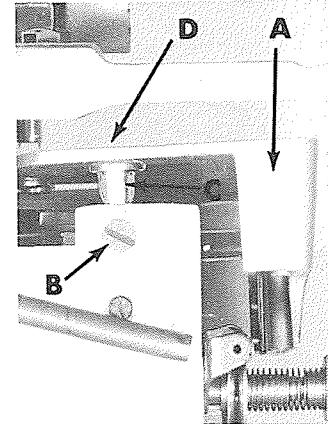

Fig. 4
**CAUTION:** When removing the cloth plate (A, Fig. 4) loosen the cloth plate stud locking screw (B) and lift up cloth plate with the cloth plate stud (C) and cloth plate screw (D) assembled.